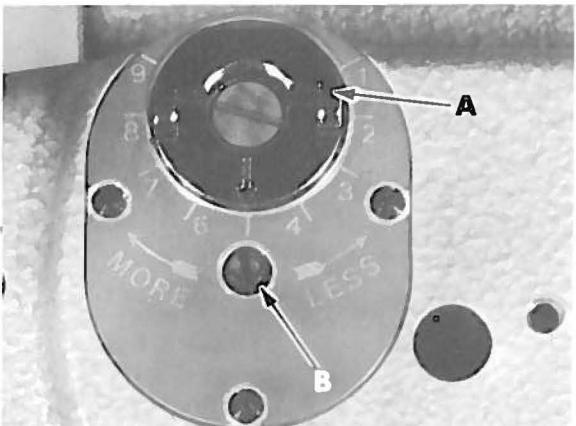

Fig. 18
Ridge former regulator (A, Fig.18) controls the amount of needle penetration at maximum penetration (9 on the dial). The needle should graze the ridge former disc enough to note the needle lifting off of the needle guide of presser foot. If adjustment is required. Remove locking screw (B) and turn adjusting screw (located beneath same) as required. Replace and tighten locking screw (B). The needle moving from left to right should be timed with the ridge former so that when the ridge former has reached its farthest travel to the rear, the point of needle is over the center of the width of the ridge former.